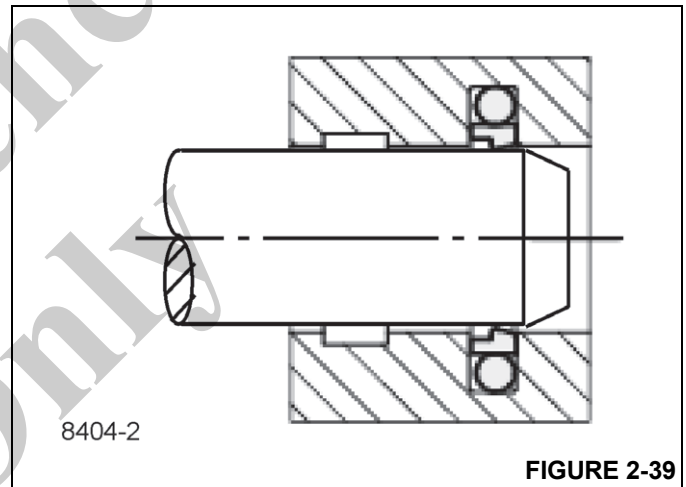

FIGURE 2-39
4. Now reform turcon ring to the original size either by using a mandrel (e. g. made of polyamid) or by the rod itself which is provided with a suitable taper (Figure 2-39).